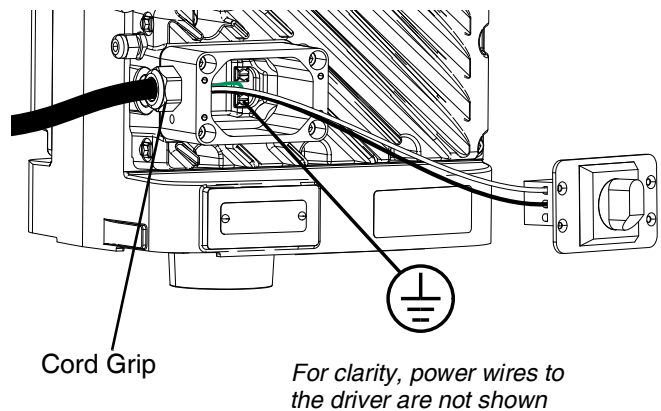

FIG. 6: Connect Power
- Attach the ground wire to one of the two ground terminals inside the junction box as shown in **Figure 6**.